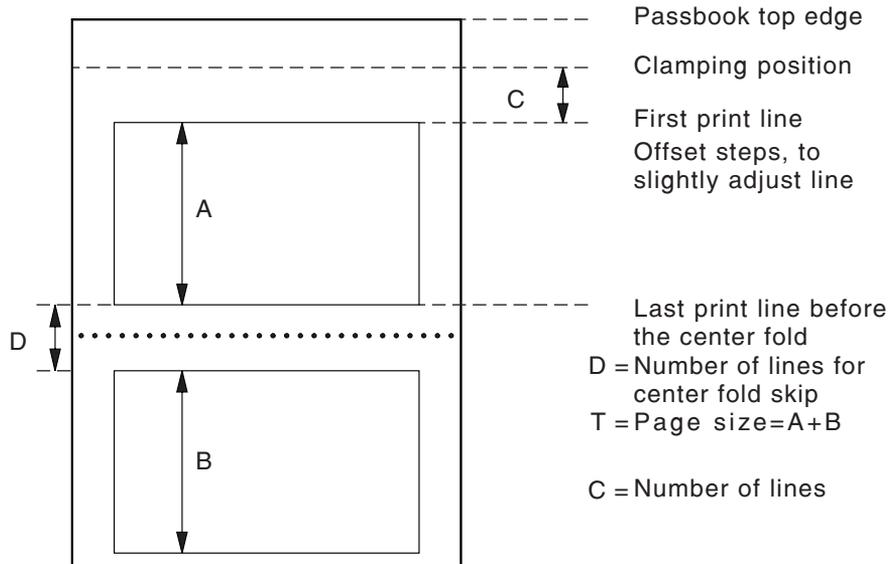

Figure 14. Passbook Dimensions for IBM 4720 Printer Customization
- FOLDSKIP** Is an optional keyword to define the total number of lines or character positions skipped for horizontal fold or vertical fold passbooks. (See dimension D in Figure 14 on page 314.) The center fold skip can be any value provided that, when added to the page size (PAGESIZE for horizontal fold passbooks) or to the line length (LINELEN for vertical fold passbooks), the sum is less than or equal to the maximum logical page size or the maximum printer line length respectively. For vertical passbooks, the default is **4**.
Is an optional keyword to define the page size, that is, the number of print lines per page. (See dimension A in Figure 14 on page 314.)
Is an optional keyword to define the number of lines between the first printable line and the line occupied by the tractor clamping mechanism. (See dimension C in Figure 14 on page 314.)